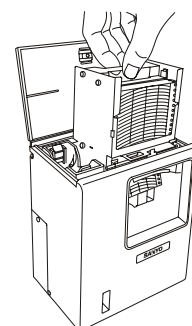

Fig. 2
2. Pull the cartridge up after opening the top lid. The lid can be opened by turning the knob counterclockwise. See Fig. 2.